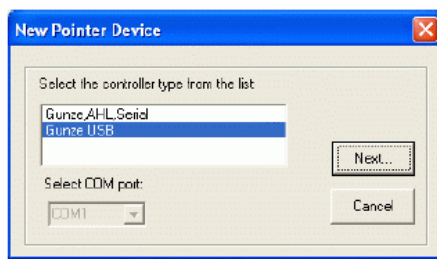

Figure 1
5. Select "Gunze USB" if using a USB cable to connect between the monitor and PC from the **New Pointer Device** menu. See Figure 1.